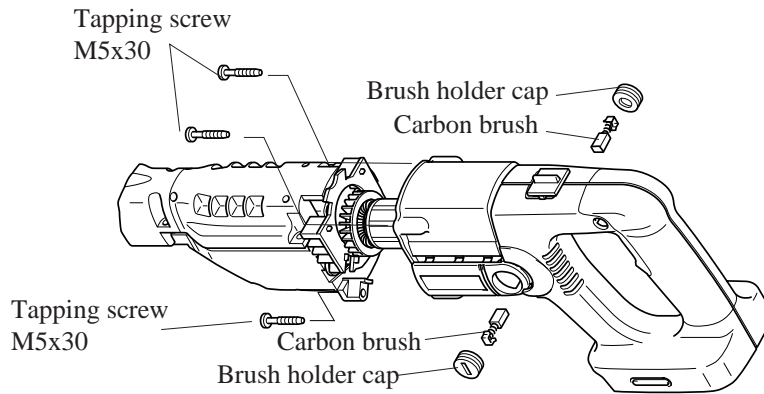

Fig. 20
1. After removing shoe and insulation cover, remove brush holder caps and carbon brushes. And separate the gear housing section from motor housing by unscrewing 4 pcs. of tapping screws M5x30. See Fig. 20.
< Note > Be careful, not to be pinched your fingers between motor housing and gear housing section in the step of Fig. 20, because armature is dragged strongly by magnetic force of yoke.